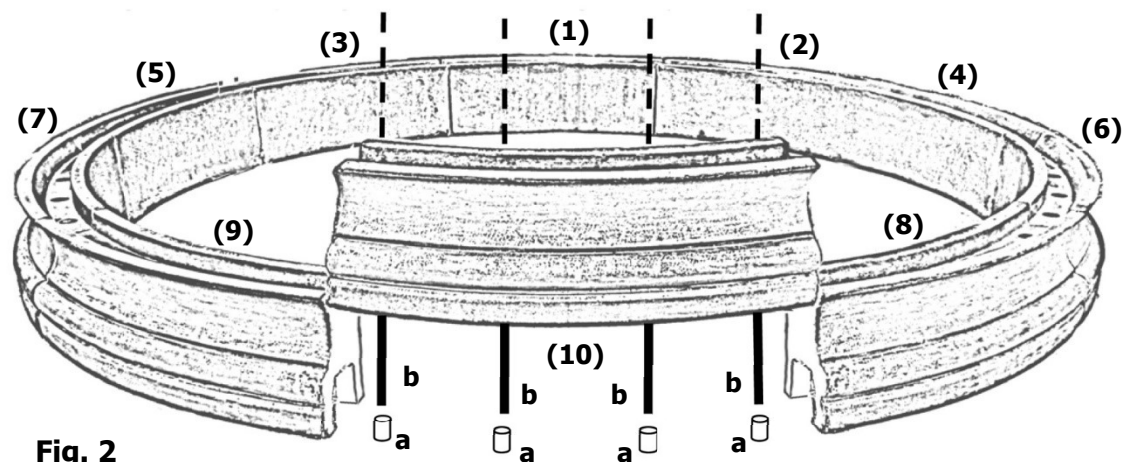

Fig. 2
Using 4" bender board, stake a 13' (3249-12) or 17' (3249-16) diameter to create a concrete slab cast. Place ½" rebar 1' off center and raise 2" from sand using concrete blocks. Pour and finish a 4" concrete slab. Cure slab for 7 days. Place and space each of the Bracci Basin components 3249 (-L) and 3249-T(L) see number sequence in figure 2. Space each component piece approximately ½" using a carpenter's pencil which has a ½" width. Note that when placing the bases, the caps 3249-T(L) are placed with an off-center overlap. Remove caps 3249-T(L) and mark the location of the holes cast in each base component (4x10) to anchor the basin to the concrete foundation (see Fig. 2).
Remove all base components and drill ¾" holes (a) approximately 2" deep at all previously marked spots. Remove dust and debris, apply epoxy to the holes (a). Use shims to place base components ½" from concrete slab. Set first base component and place rebar in the holes filled with epoxy. Each base component requires 4 pieces of ½" rebar (b) approx. 12" long (not included). Using the exact same spacing during the dry set-up, place each component ½" up from the slab using shims. Fill all joints, with a dry-pack grout moving left to right (see number sequence in figure 2). This to ensure mortar remains fresh all the way around. Wait 24-hours to remove shims and fill all holes with mortar to secure rebar pieces followed by placing each of the 3249-T(L) with an off-center overlap to the bases in the sequence shown in the figure below maintaining the same spacing as was used during the dry set-up.